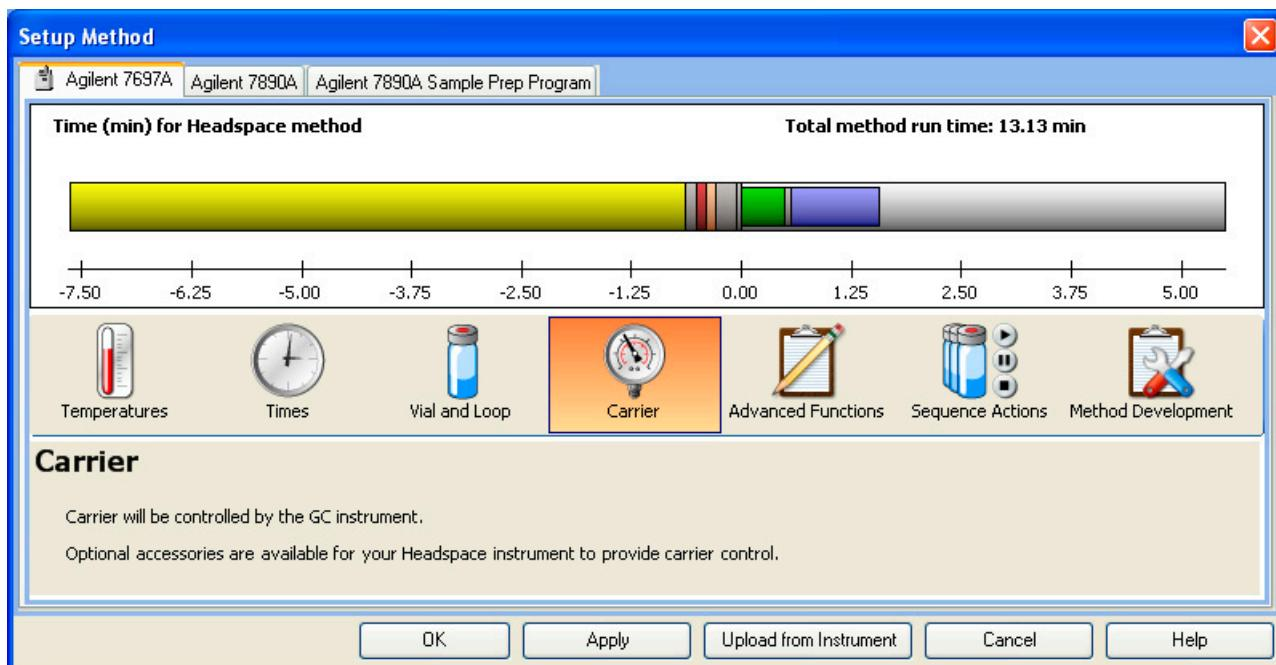

Figure 17 Setting the carrier parameters
- 6 Select the **Carrier** icon. In this example, the GC controls the carrier flow, as shown in Figure 17. If you have the optional EPC module installed with your HS system, the HS carrier control parameters appear here.